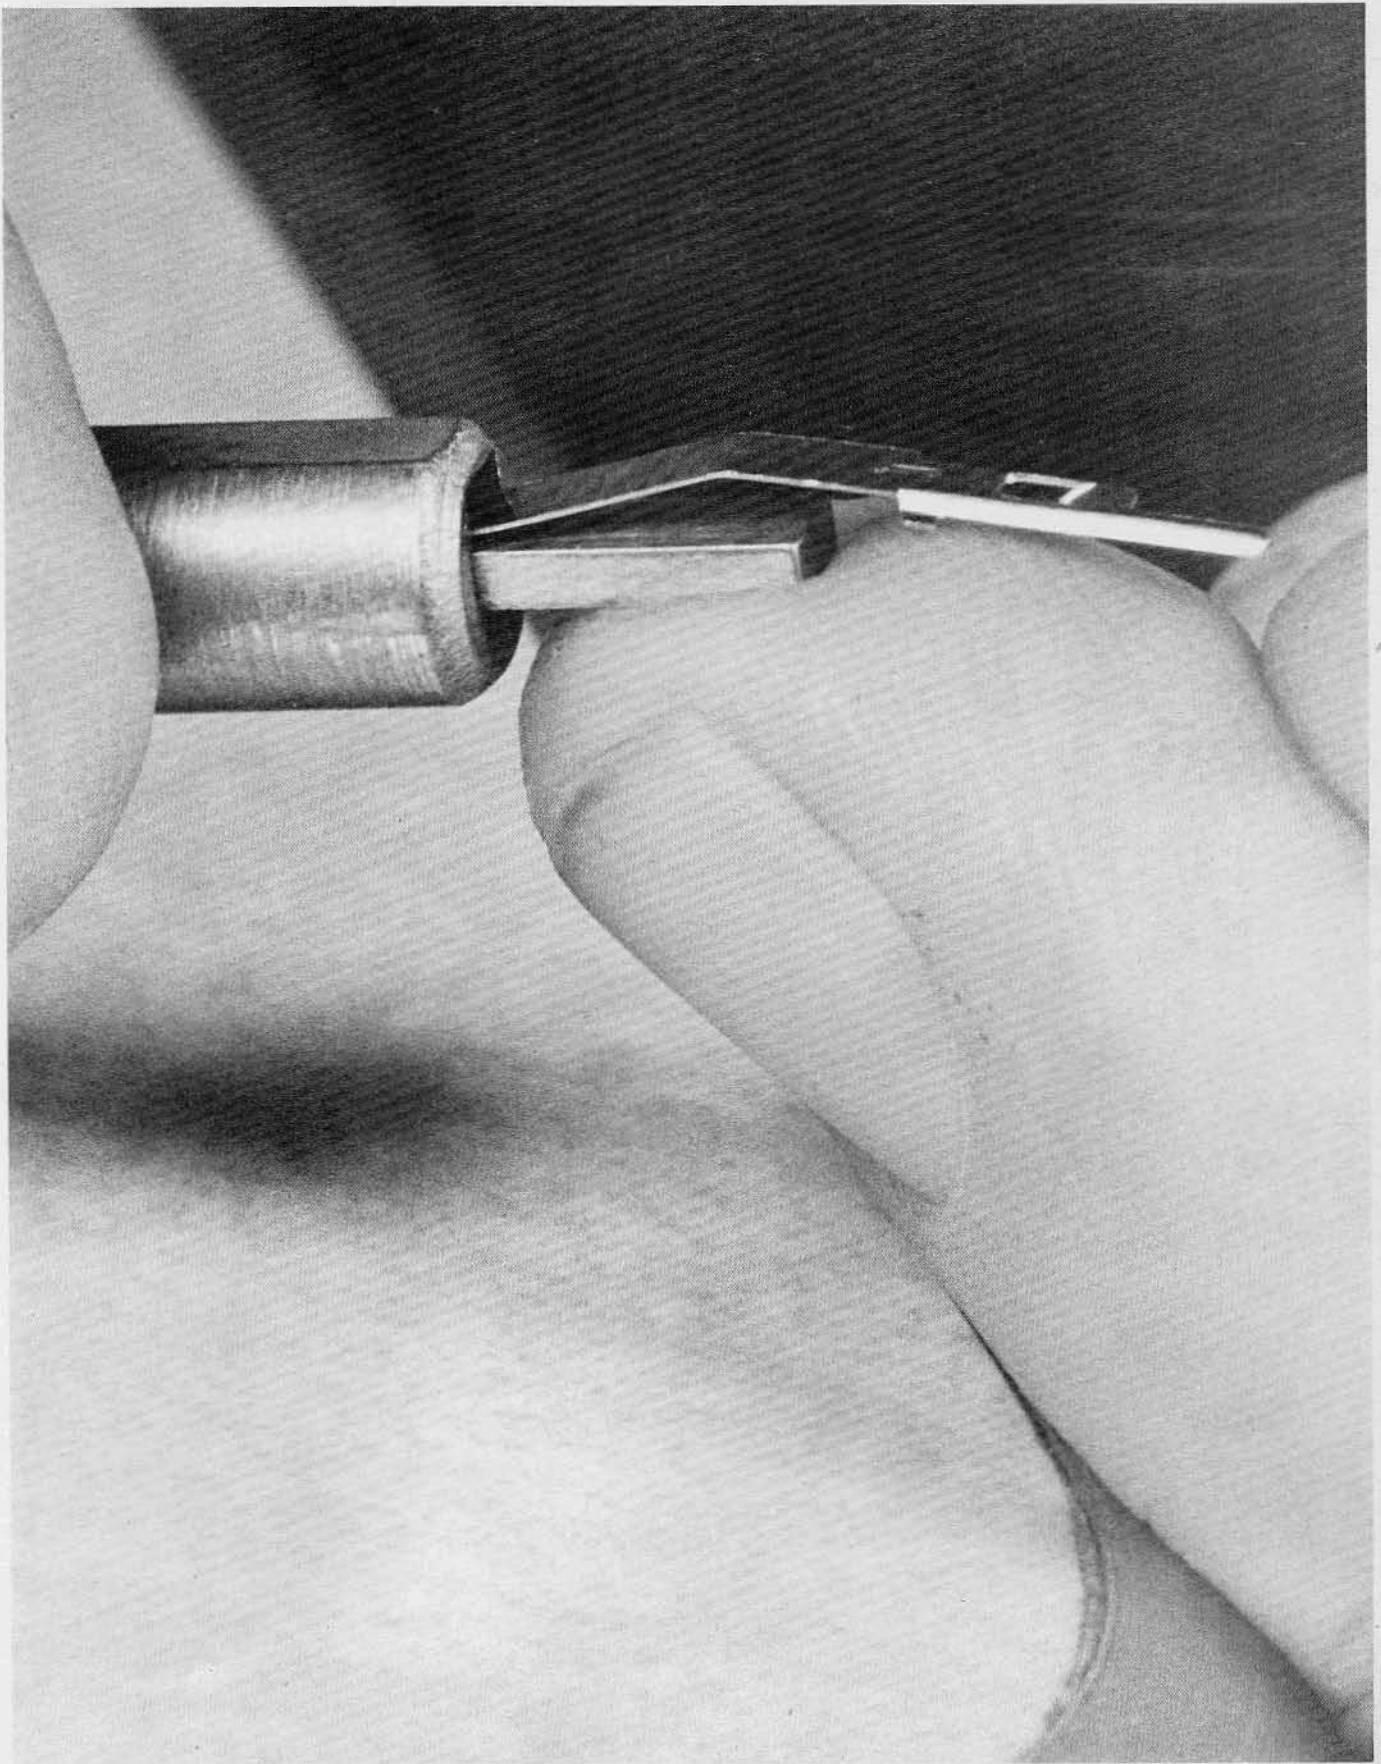
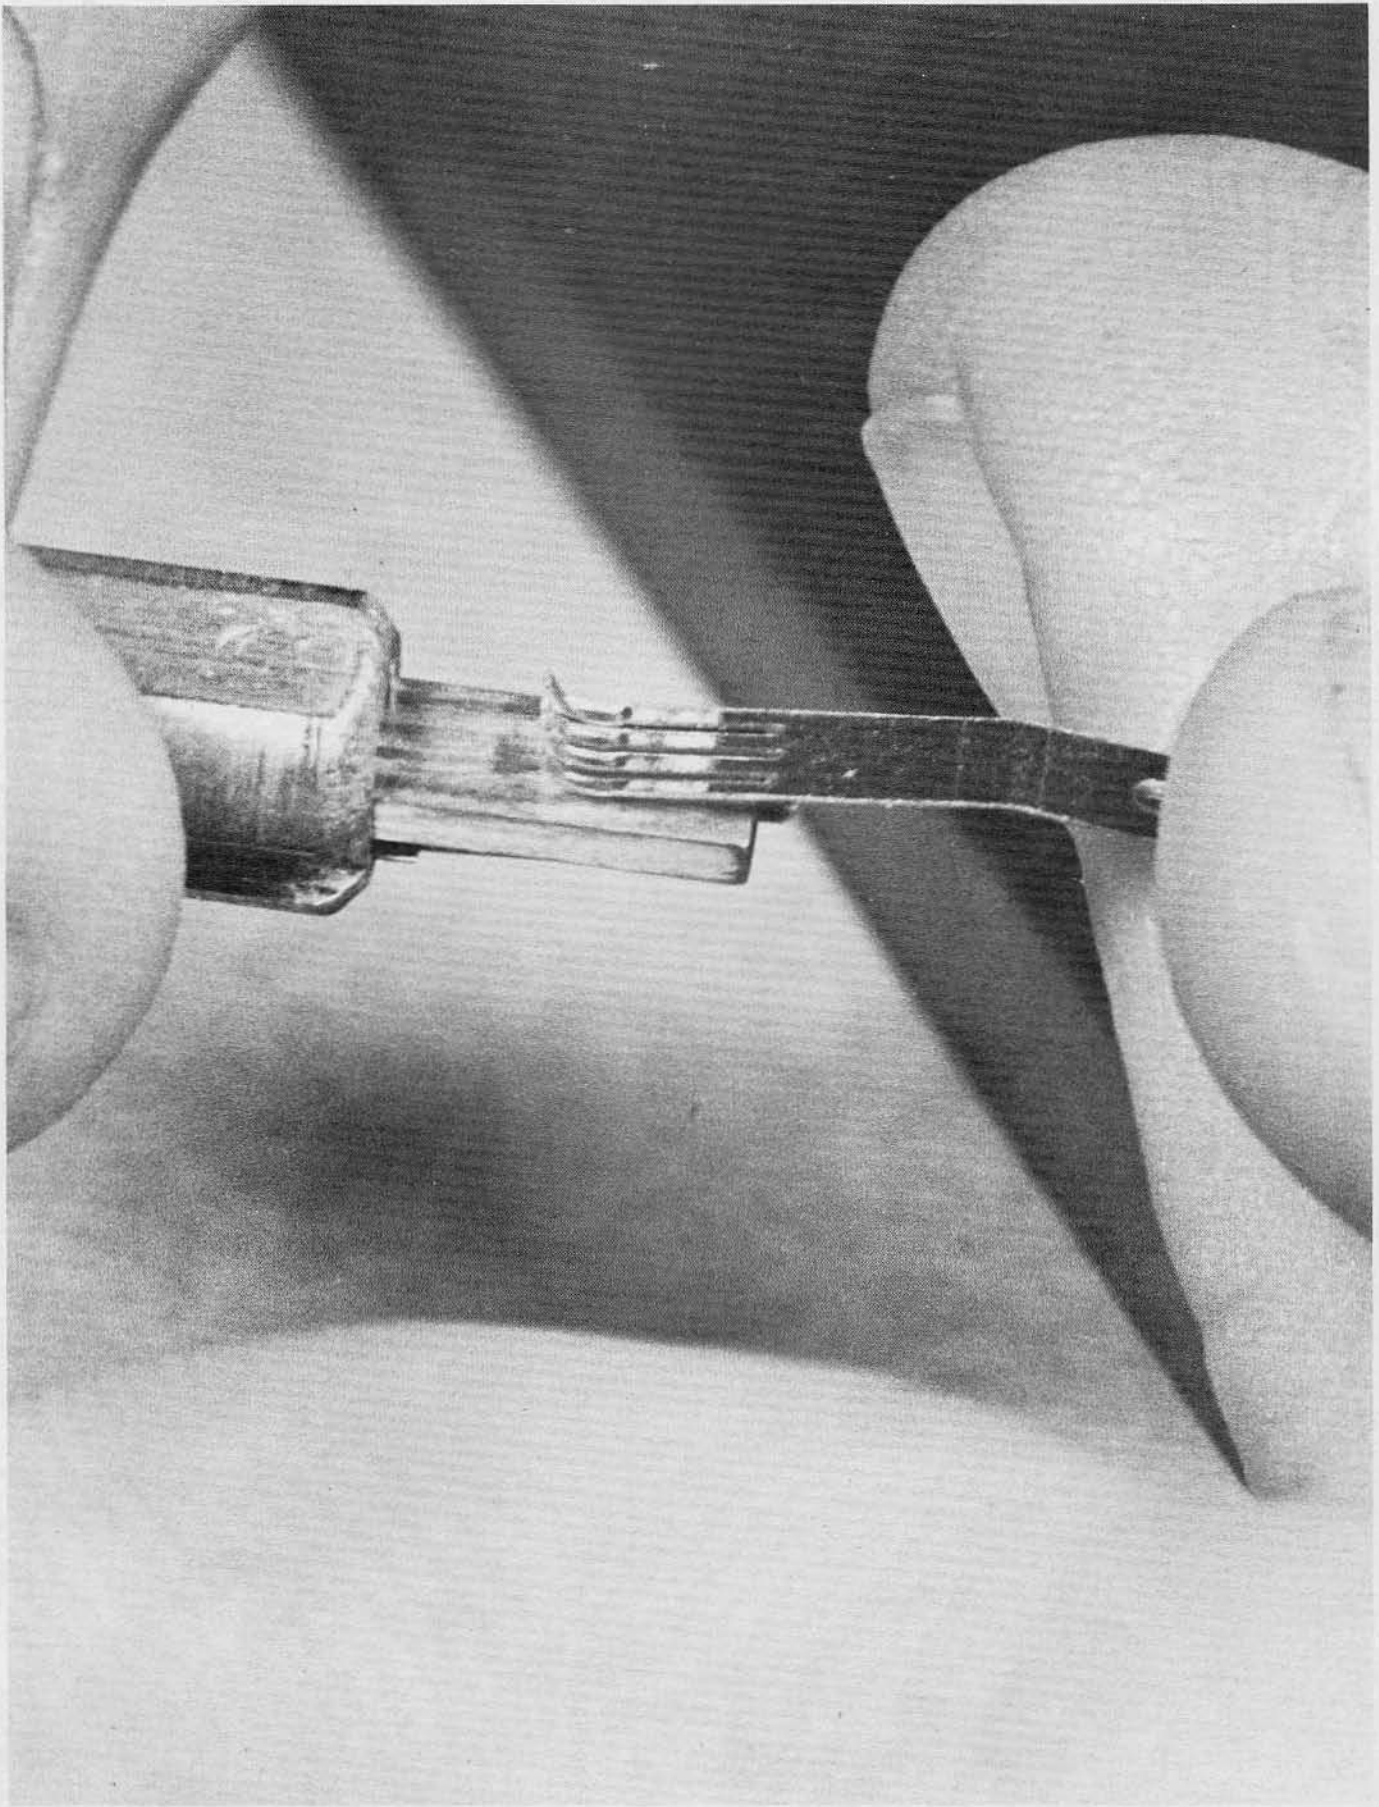

Figure 5-7.
Figure 5-8.
- h. Insert the solid contact (P/N 373-30052-2) in the insertion tool with the bend to the outside and the solder end up (see figure 5-7). Insert the split contact (P/N 373-30053-2) with the split end in first (see figure 5-8).